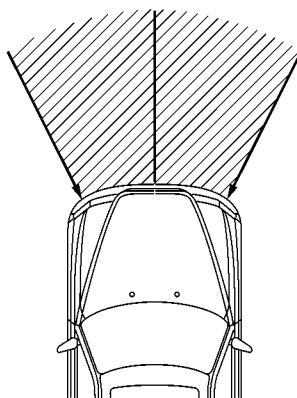

Fig. 1
- When the vehicle collides in the hatched area (Fig. 1) and shock is larger than a predetermined level, the airbags (driver and front passenger) are activated automatically. The deceleration sensor of the Airbag sensor assembly judge the need for ignition in response to collisions within the hatched area based on the signal from the deceleration sensor of the front airbag sensor assembly.